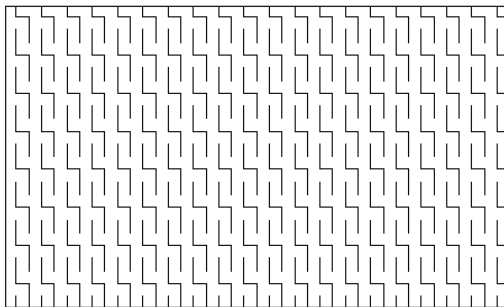

Figure 31-11: The lightning hatch pattern
10. Choose **Select Objects** and pick the rectangle in your drawing. Press Enter. Click **OK**. AutoCAD fills the rectangle with the lightning hatch, as shown in Figure 31-11.